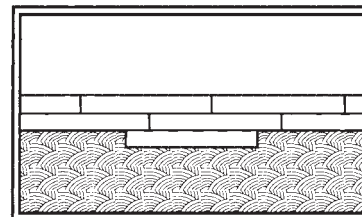

Fig.25
- Start installing the plank along the center line (Fig. 25).